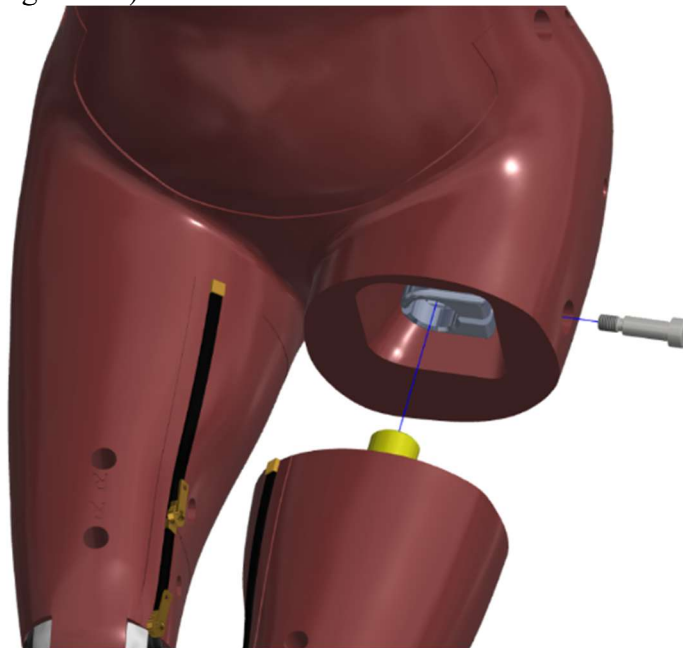

Figure 9-9. Remove the leg from the Femur Assembly by removing the M12 X 30 LG. SHSS.
- 9.2.2 Remove the leg from the Femur Assembly by removing the M12 X 30 LG. SHSS (Figure 9-9).